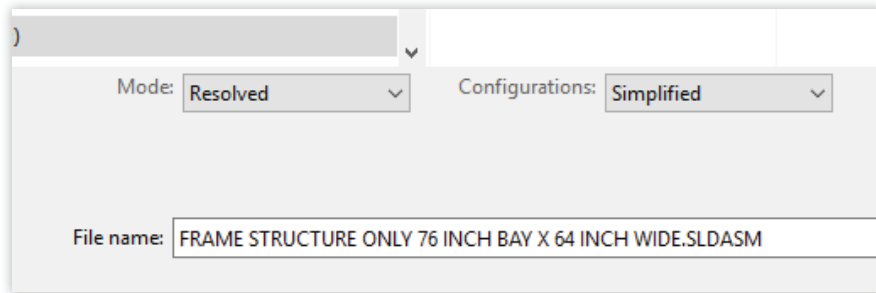

Fig. 16
- As you move up the assembly tree, keep adding simplified configurations using the simplified versions of each sub-assembly and component. See Fig. 16.